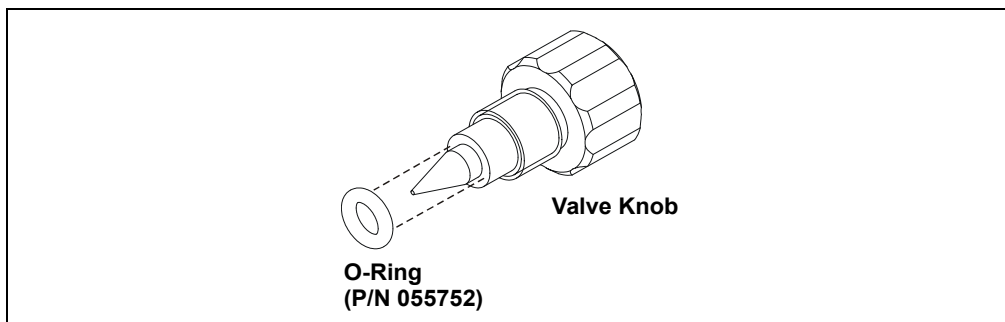

Figure 5-8. Waste Valve or Priming Valve O-Ring Replacement
4. If the O-ring is removed with the valve knob in Step 2, pull the O-ring off the end of the knob (see Figure 5-8). If the O-ring is not removed with the valve knob, insert a thin object (for example, the bent end of a paper clip) into the cavity in the pump head and carefully pull out the O-ring. **Do not scratch the cavity.**